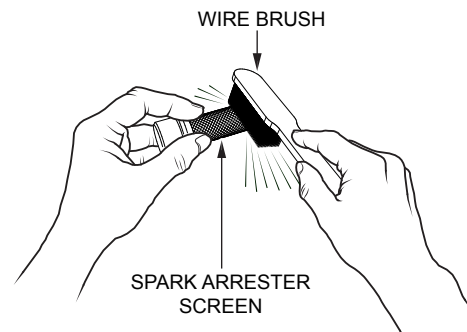

Figure 39. Cleaning The Spark Arrester
3. Carefully remove carbon deposits from the spark arrester screen (Figure 39) with a wire brush.